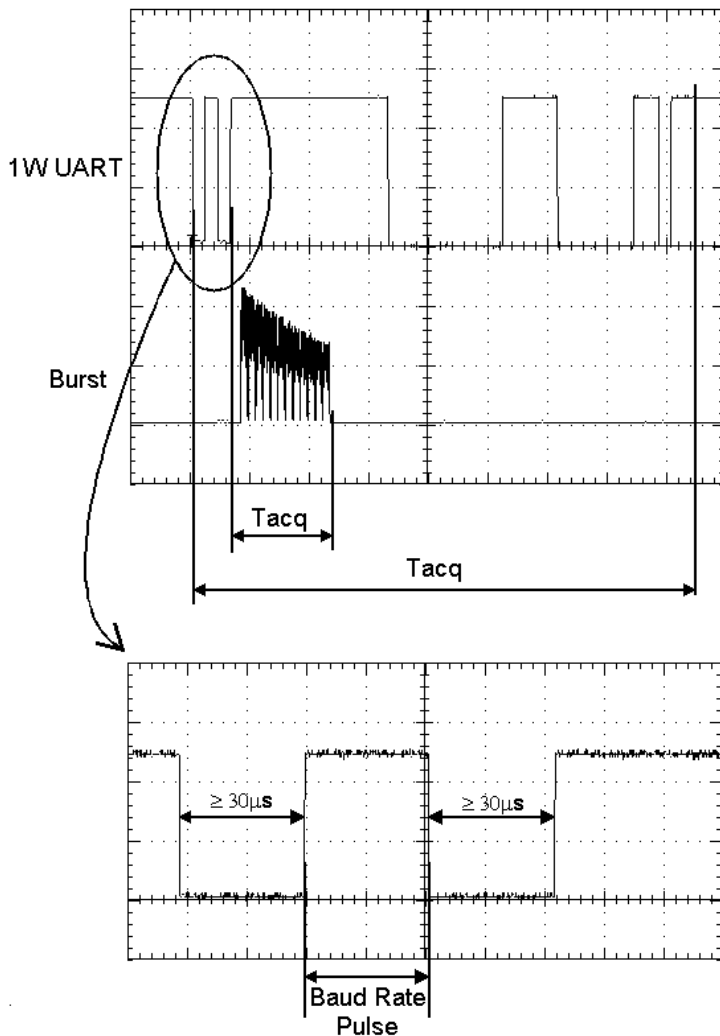

Figure 4-1 UART and Trigger Pulse Signal.
- 1) The host generates a pulse on the 1W pin; the pulse width must match the Baud rate (bit width) of the expected return Baud rate from the QT300. This pulse actually sets the Baud rate each time, and so it can vary from one acquire to another. See Section 4.3 and Figure 4-1.
The part wakes from low power mode when the first negative edge is detected on the 1W pin (Figure 4-1, bottom). The negative pulse must be at least 30 μ s wide.